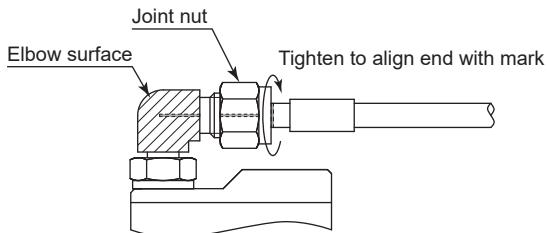

Fig. 26
(2) Fit an adjustable wrench on the elbow surface (shaded area) of the high-pressure coolant fitting to hold it in place, and use another adjustable wrench to tighten the joint nut to its original tightening position. (Check that the matching lines are aligned and the end of the joint nut is aligned with the mark on the hose). (Fig. 26)